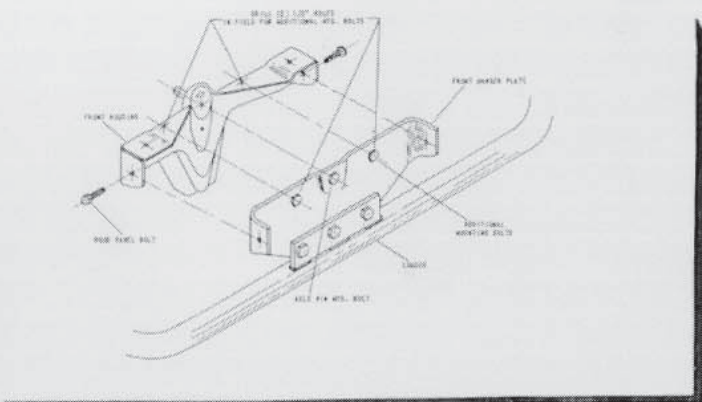

Figure 7 Loader Installation For Ford Model 8N and New Style Ferguson Tractors
6. Secure front hanger plate against front axle support and over the axle pin with bolt furnished (Figure 7).